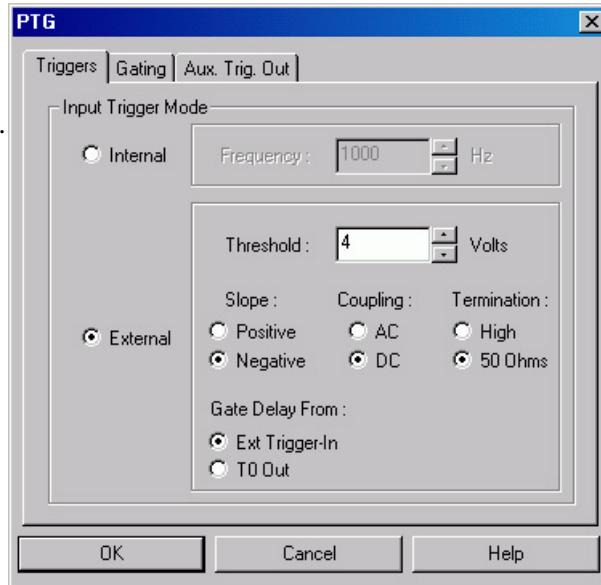

Figure 165. PTG Triggers tab page
3. Select **PTG**. Then click on the **Setup Pulser** button. The PTG dialog box (Figure 165) will open. *If PTG is grayed out on the Pulsers dialog box, PTG support has not been installed.*